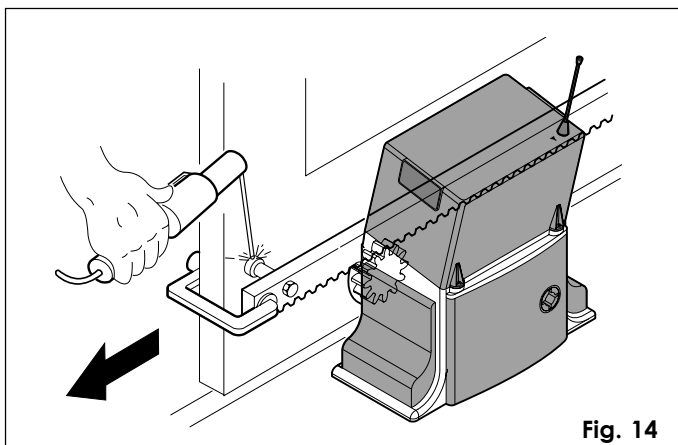

Fig. 14
- 3) Lay the first piece of rack at appropriate level on the pinion and weld the threaded pawl on the gate as shown in figure 14.